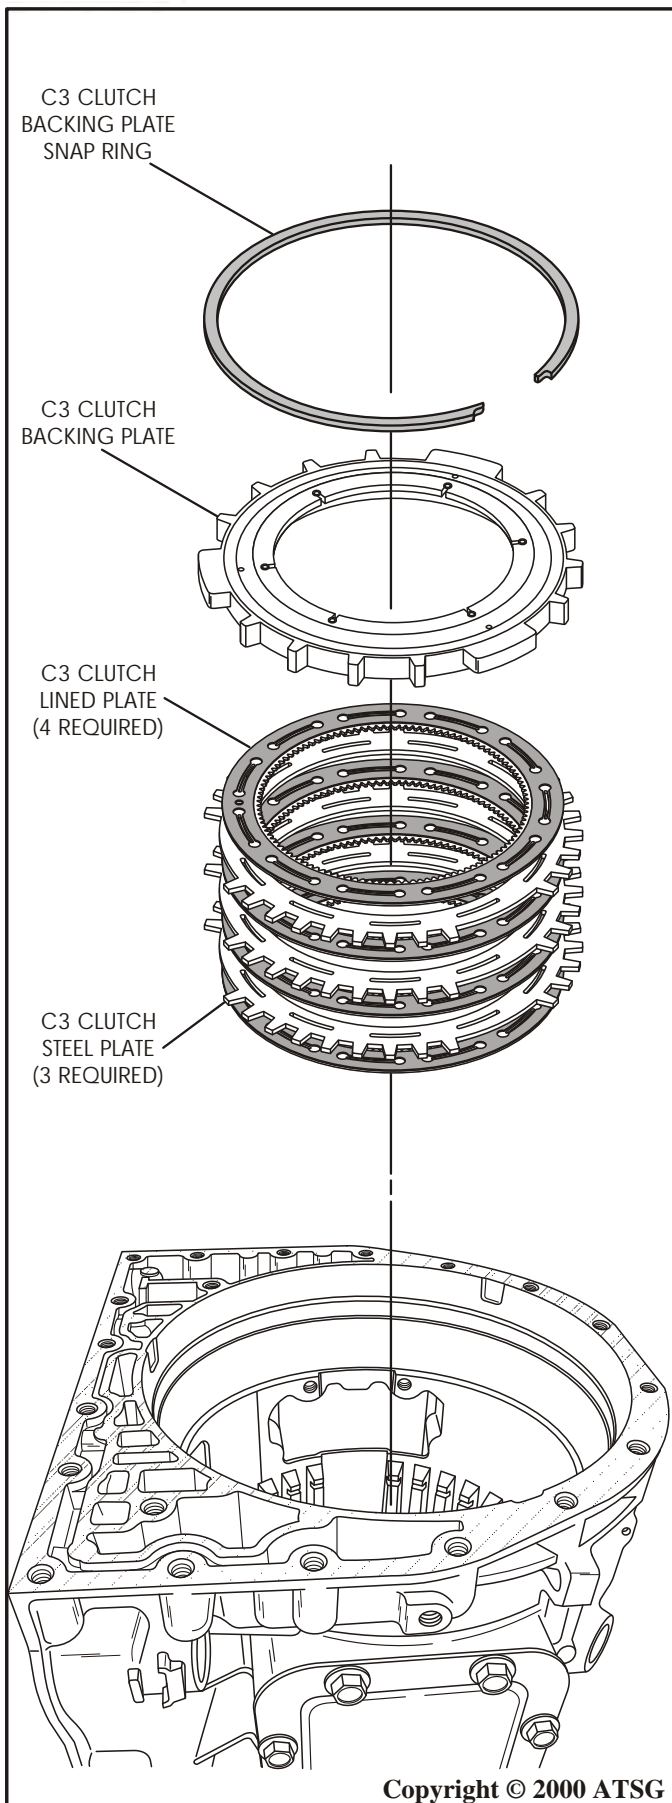

Figure 79
6. Install C3 clutch pack beginning with a lined plate on top of the apply plate and alternating with a steel plate until you have installed four lined plates and three steel plates, as shown in Figure 79.
7. Install the pre-inspected C3 backing plate with the 3 washer surfaces facing down, as shown in Figure 79.
8. Install the C3 clutch backing plate snap ring in the case groove (See Figure 79).